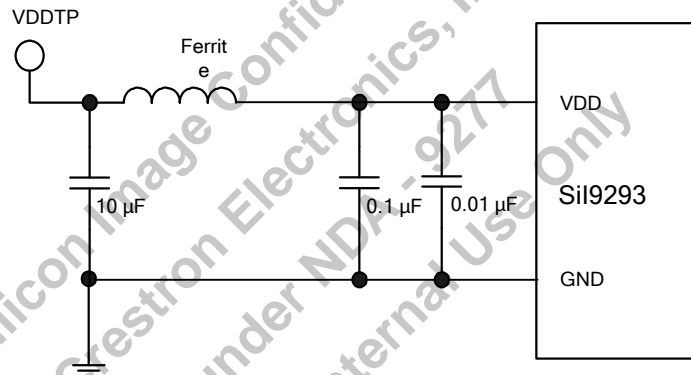

Figure 5. Test Point VDDTP for VDD Noise Tolerance Specification
1. The supply voltage noise is measured at test point VDDTP, as shown in Figure 5 on page 10. The ferrite bead provides filtering of power supply noise. The figure is representative and applies to other VDD pins as well.